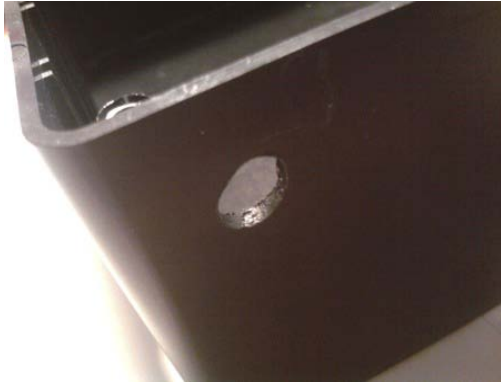

Figure 9-6. Modify enclosure so that it can hold the duck antenna.
1. Drill a hole for the duck antenna with a drill or dremel; just make sure that the hole can be reached by the SMA cable on the Cellular Shield (see Figure 9-6).